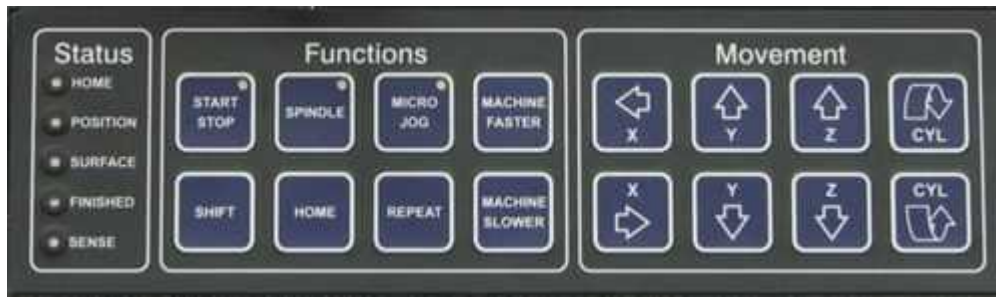

Figure 10
- 9 Press "Start" on the keypad, the green light should now be on, lower the Z axis until it stops by pressing the "Z Down" button, see Figure 10.